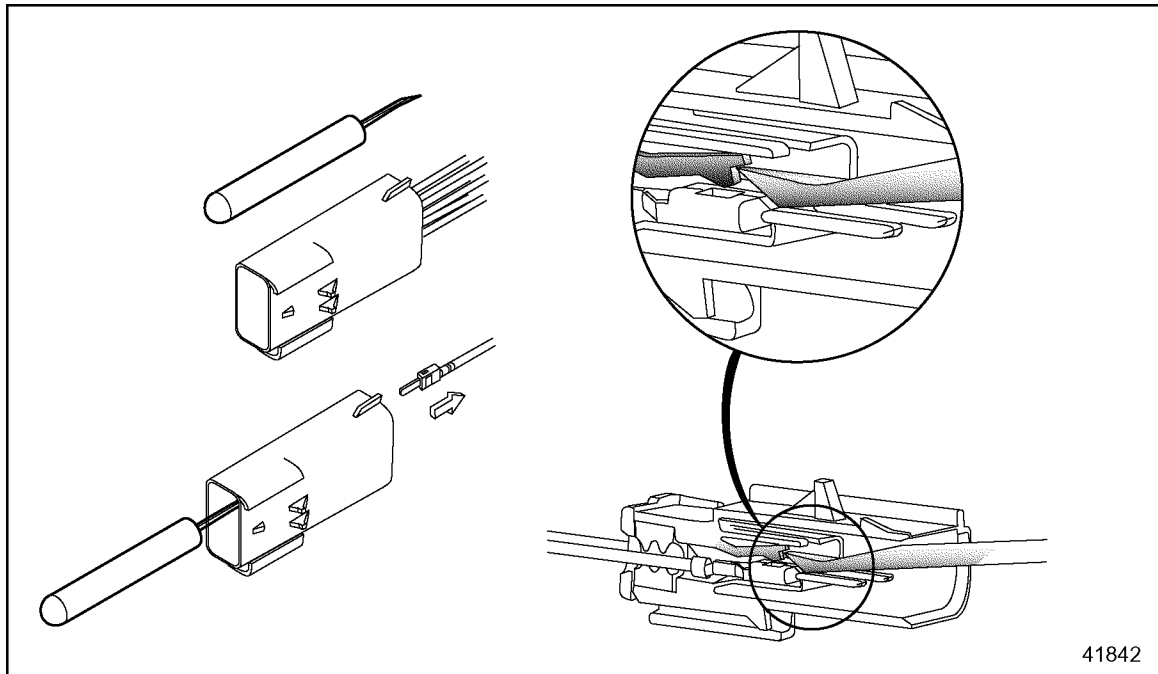

Figure 16-37 Pressing the Locking Tang
2. Using a FCI APEX repair tool (P/N: 54900002) or a #2 jeweler's screwdriver, press back the terminal locking tang (see Figure 16-37).